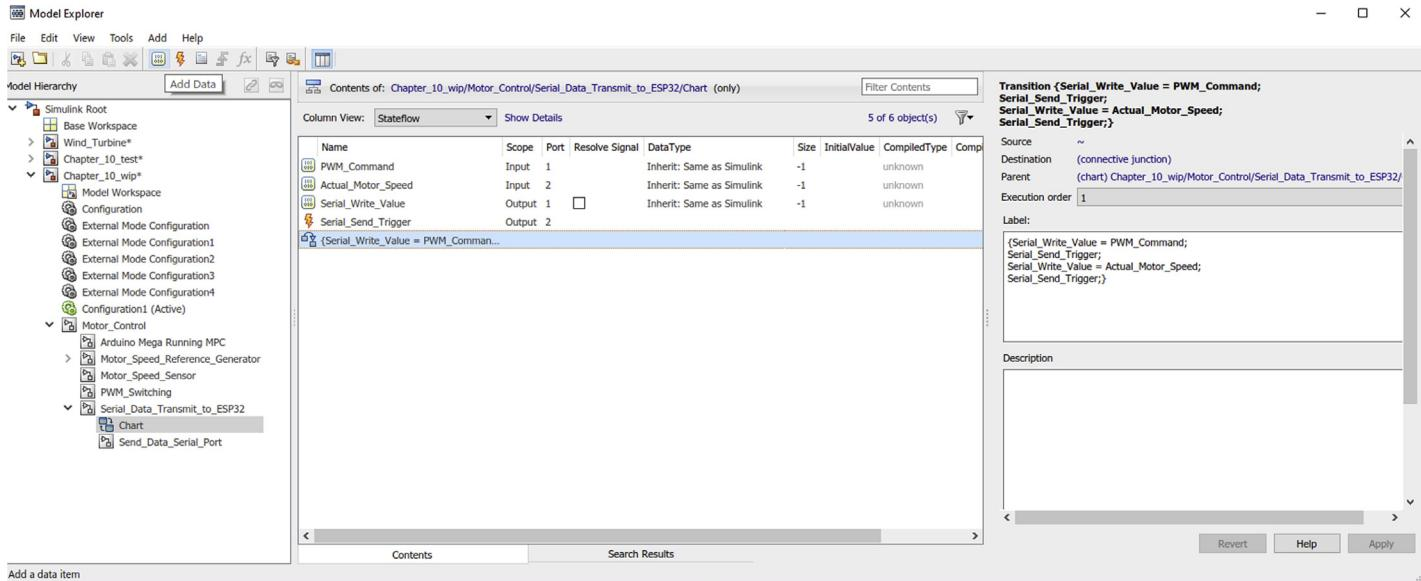

Figure 10.37 Add Data option in Model Explorer.
17. With the Main_Controller subsystem completed, the Serial_Data_Transmit_to_ESP32 subsystem in the top level of the model can be modified now. As mentioned in the previous section, only the steady-state motor RPM is going to be compared for Off-BD detection. Currently, the Serial_Data_Transmit_to_ESP32 sends data all the time; hence, a few modifications would need to be made for this subsystem to only send data when system has entered steady state. Firstly, go inside Chapter_10/Motor_Control/Serial_Data_Transmit_to_ESP32/Chart, right click anywhere, and click Explore. It should open the Model Explorer. In the top bar menu, click on “Add Data” two times to add two parameters as shown in Fig. 10.37.